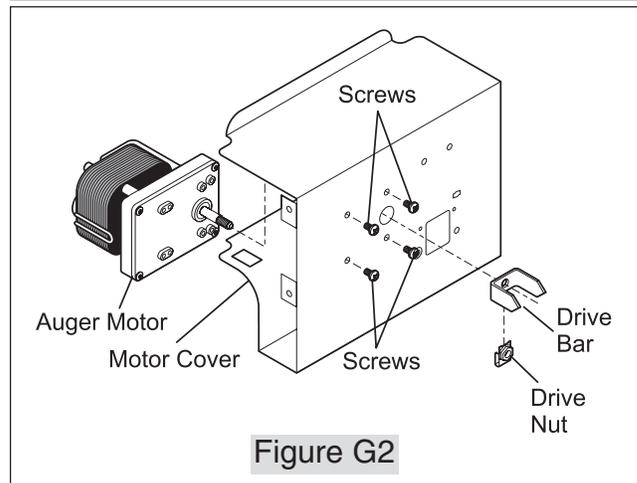

Figure G2
8. Rotate Drive Bar and Nut (located on front of Motor Cover) in counterclockwise position until it comes free of Auger Motor shaft. (See Figure G2)